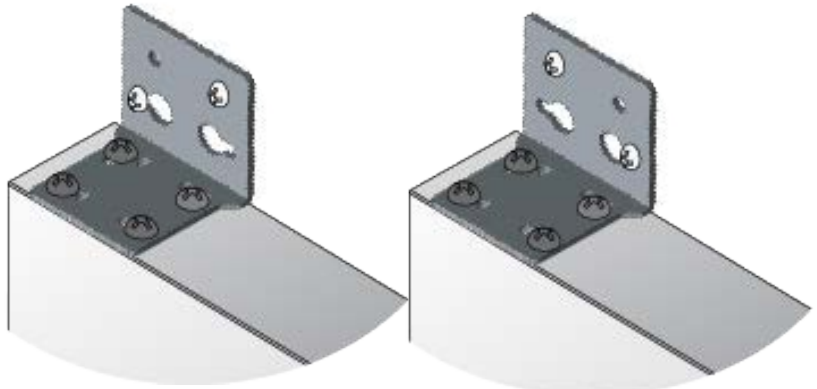

Figure 44. Two Screws Per Bracket Attached on the Wall
- ❑ When you use two screws per bracket to install your switch to a wall, the two screws must be diagonally on the bracket plate as shown in Figure 44 on page 78.